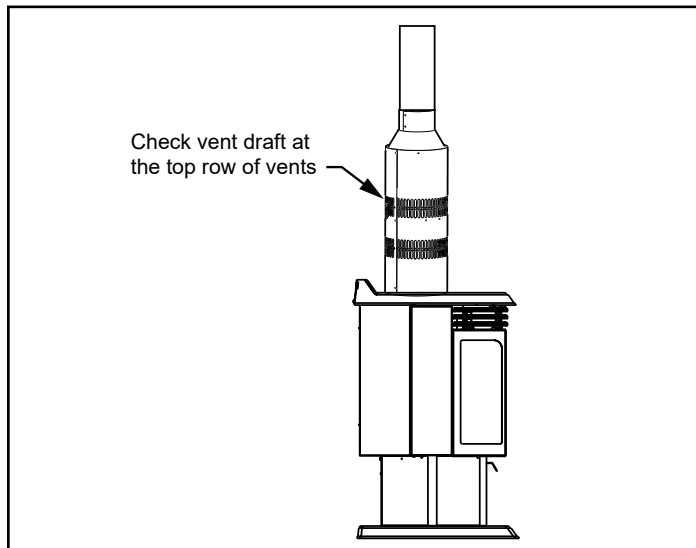

Figure 10 - Check vent draft in spillage test.
4. After a minimum of 10 minutes operation, test the chimney draft with a smoke match to confirm adequate "pull" at the vents around the body of the draught adapter, Figure 10.